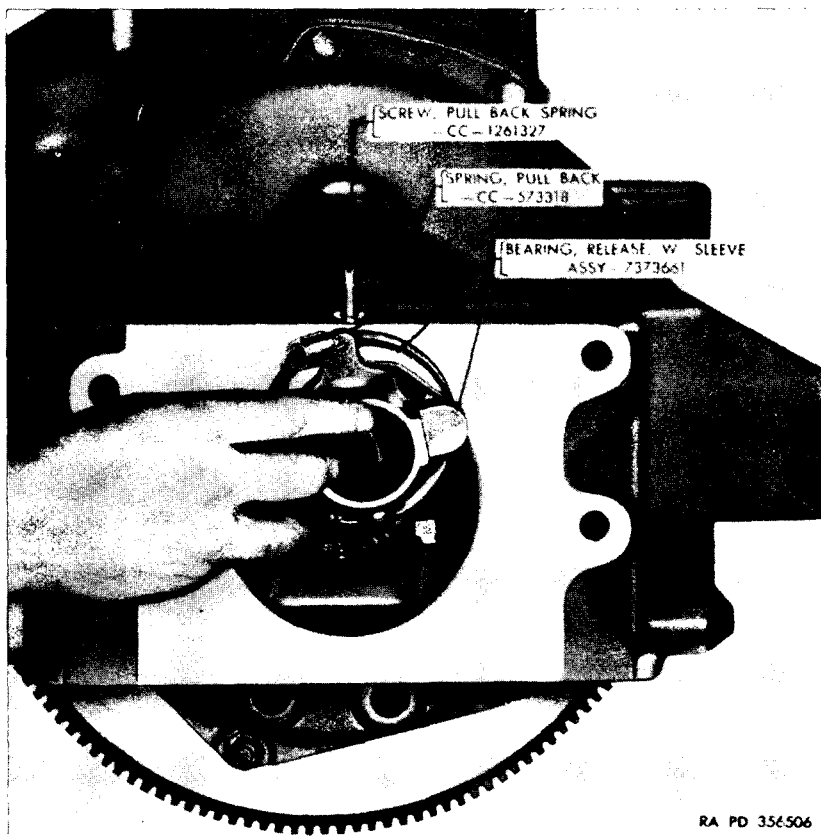
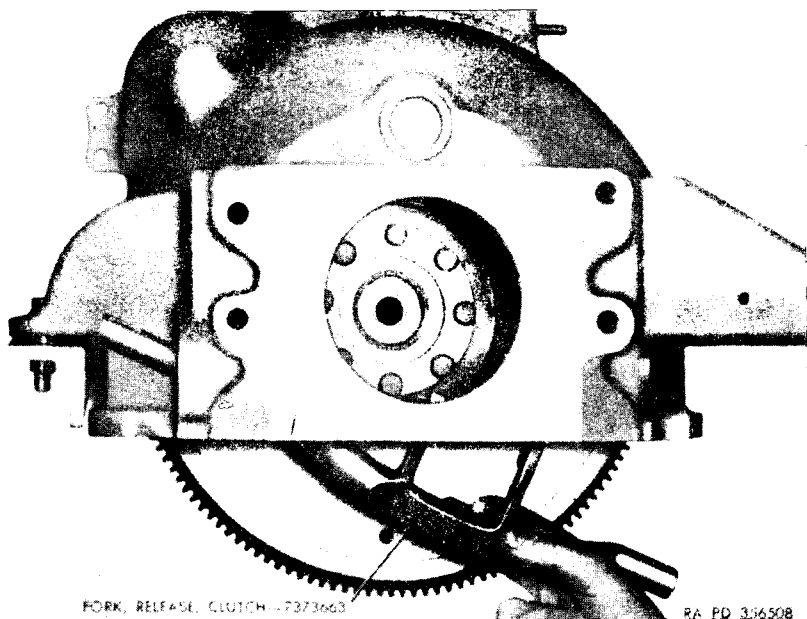

Figure 17. Removing clutch release bearing.
Figure 19. Removing clutch release fork.
- (1) Disconnect pull back spring (fig. 17). Remove pull back spring screw from top of housing and remove release bearing with sleeve assembly.
- (2) Remove the six cap screws from the clutch housing pan and remove pan.
- (3) Remove the six cap screws from the clutch cover and lower the clutch assembly from the housing.
- (4) Remove the clutch release fork lever and remove Woodruff key from the clutch release fork (fig. 19).
- (5) Remove the screws securing the release fork flange and pull release fork out of the housing.